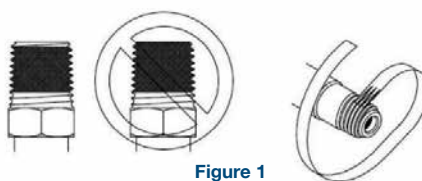

Figure 1
- 5.5 Start the PTFE tape on the second thread as shown below in **figure 1**; making sure the tape does not overlap the end of the fitting. As the tape is wrapped in the direction of the thread spiral, pull tightly on the end of the tape so the tape conforms to the threads. Wrap the tape around the threads twice, cut off the excess tape and press the end firmly into the threads as shown in **figure 1**.